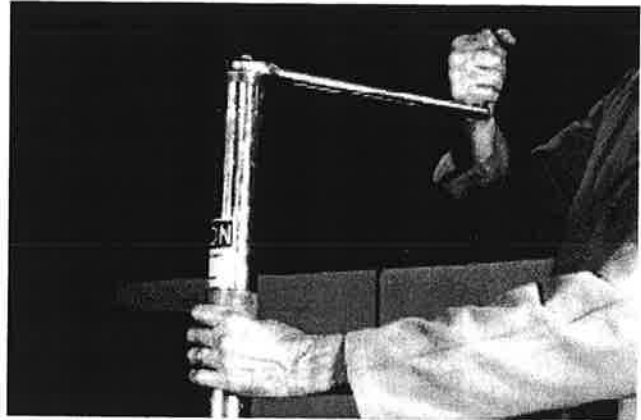

Figure 24. Attach and Turn Ratchet
- B. Attach ratchet handle to 3/4" hex drive. While a ratchet handle is furnished, best results will be obtained if handle is rotated a full 360 degrees while cutting. Turn clockwise only. See Figure 24. If air motor is used, review paragraph 6.2, Section I "Air Motor" for important instructions. The rate of advance for the drill is determined by the advance of the feed tube. Eight revolutions of the feed tube will lower the drill one inch.